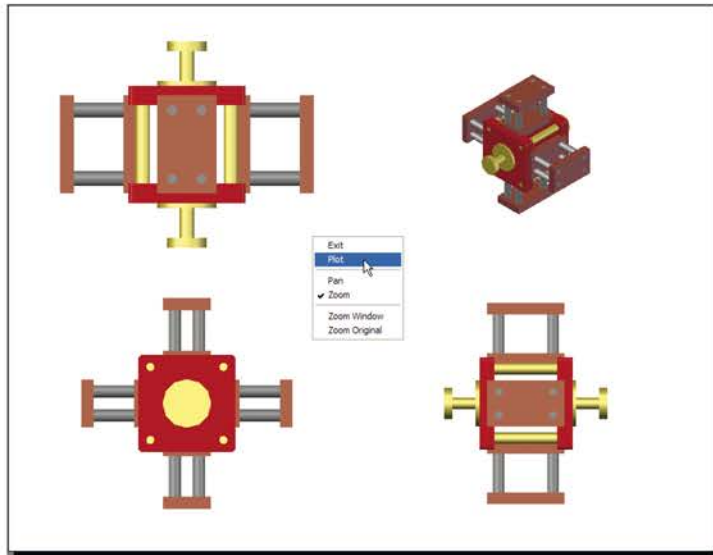

Fig. 16.37 Second example – multiple view copy
SECOND EXAMPLE – MULTIPLE VIEW COPY (FIG. 16.37)
6. If the preview is satisfactory (Fig. 16.37), *right-click* and, from the right-click menu, *click Plot*. The drawing plots to produce the required four-viewport hardcopy.